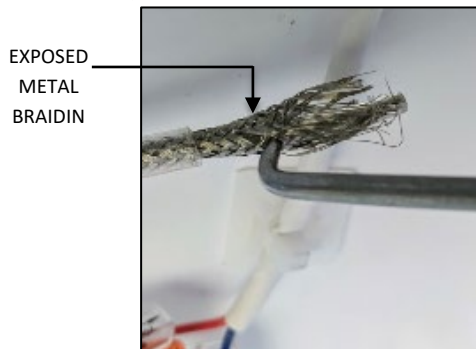
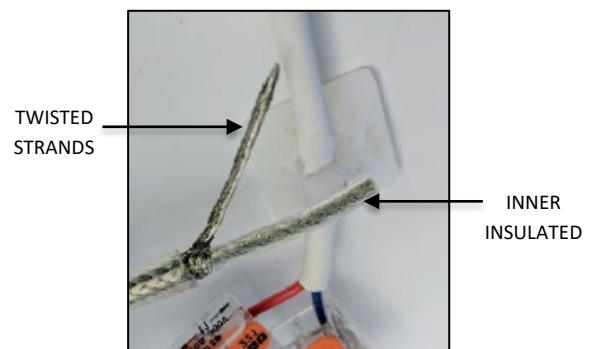

FIG. 21
FIG. 22
2. Using a small pointed object, begin unweaving the exposed metal braiding as shown in FIG. 21 below. Position the unwoven metal strands on one side of the inner insulated wire and twist the individual strands together as shown in FIG. 22 below.